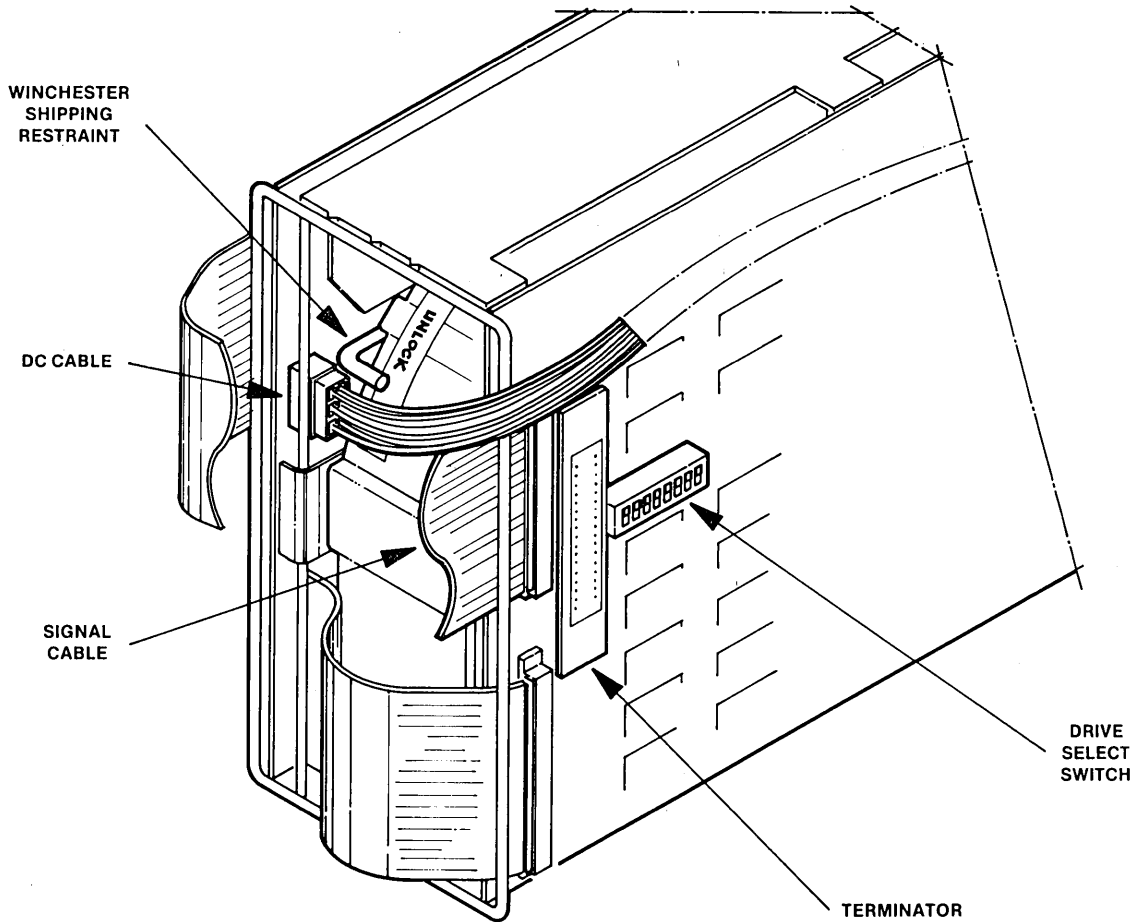

Figure A-1. Drive Select and Terminator Location
6. Disconnect the power cable and the signal cable from the Winchester drive. Refer to Figure A-1.
12. Insert the terminator board into place on the last drive in the chain. Refer to Figure A-1.